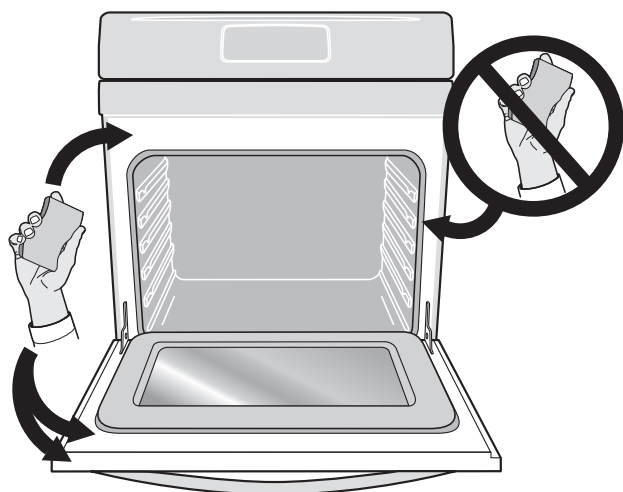

Figure 30: Oven door area to clean and not clean (gasket).
- Clean any soil from the oven frame, the door liner outside the oven door gasket and the small area at the front center of the oven bottom (Figure 30). These areas heat sufficiently to burn soil on. Clean using soap and water prior to starting Self Clean.
- Do not clean the oven door gasket (Figure 30). The woven material of the oven door gasket is essential for a good seal. Care should be taken not to rub, damage or remove the gasket. Do not use any cleaning materials on the oven door gasket. Doing so could cause damage to the door gasket.